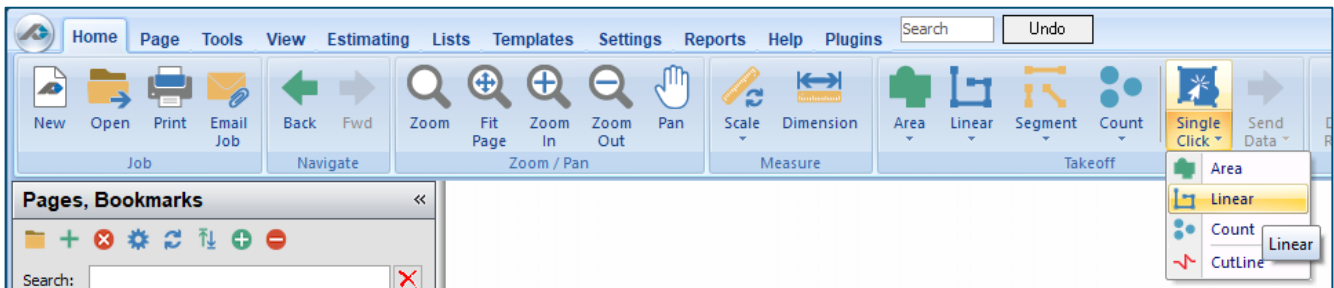

Fig. 31-A
1. Click on the drop-down half of the **Single Click** button and select **Linear** (or **Count**) from the drop-down menu (Fig. 31-A), then follow the steps for a single-click area takeoff.